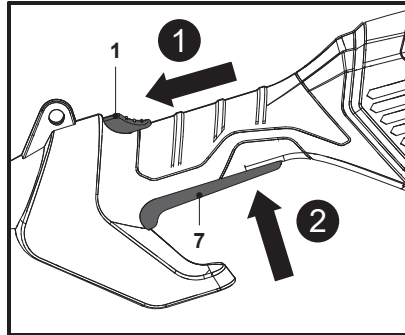

Fig. 18
1. Slide the lock-off button (1) forward and hold it in position (Fig. 18, step 1).
2. Squeeze the on/off switch (7) to switch the product on (Fig. 18, step 2), release the lock-off button (1) afterwards.
3. Release the on/off switch (7) to switch the product off.